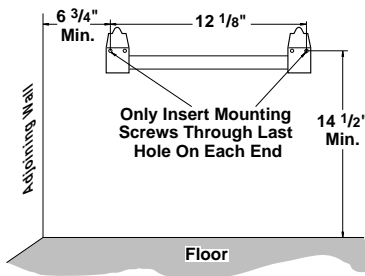

Figure 8 - Mounting Bracket Clearances
⚠ WARNING: Maintain minimum clearances shown in Figure 8. If you can, provide greater clearances from floor and joining wall.
2. Mark screw locations on wall (see Figure 8).